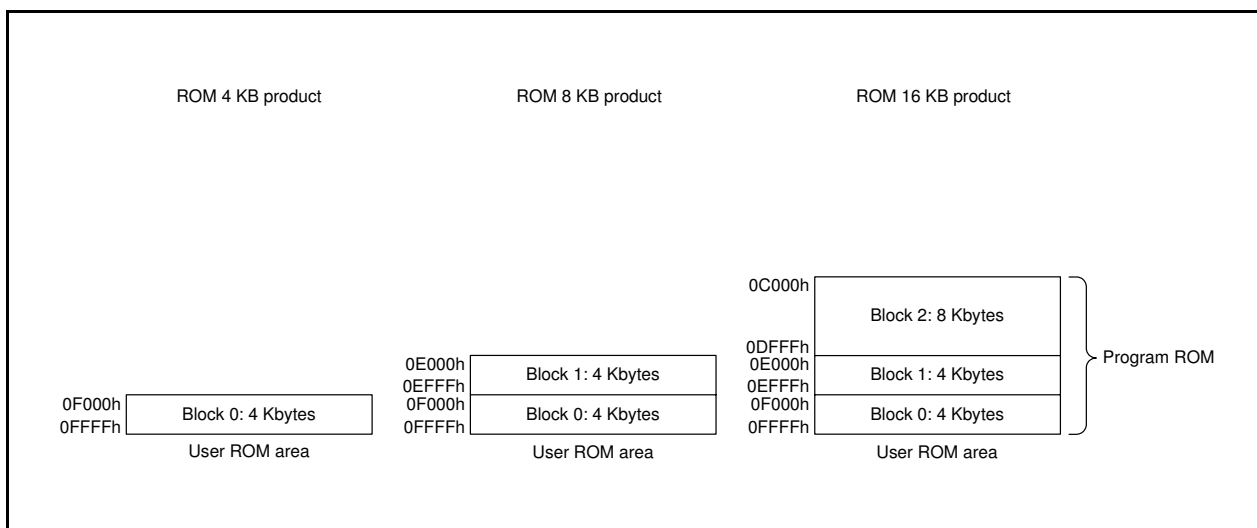

Figure 24.1 R8C/32D Group Flash Memory Block Diagram
- The number of blocks and block division vary with the MCU. Refer to **Figure 24.1 R8C/32D Group Flash Memory Block Diagram** for details.
Figure 24.1 shows the R8C/32D Group Flash Memory Block Diagram.